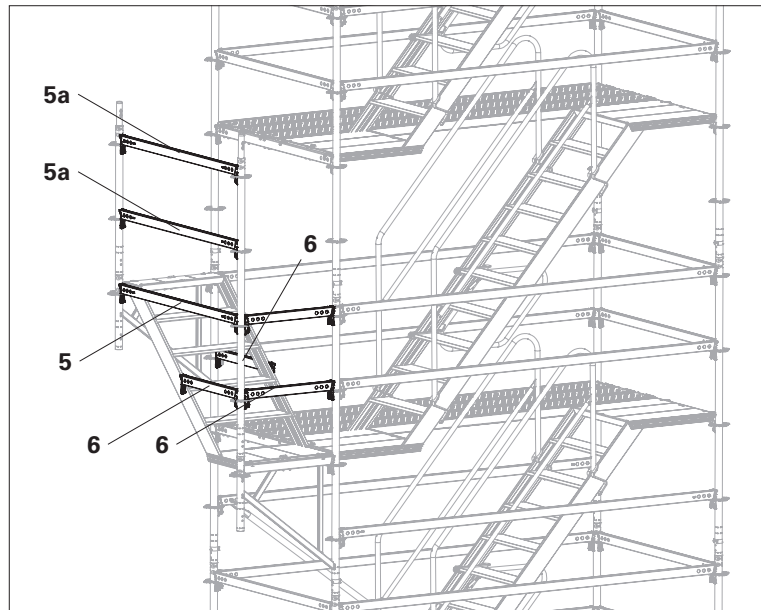

Fig. A7.04
6. Remove Horizontal Ledger UH-2 150 from the base scaffold and fit it at the exit point as lateral protection (**5a**). (Fig. A7.04)